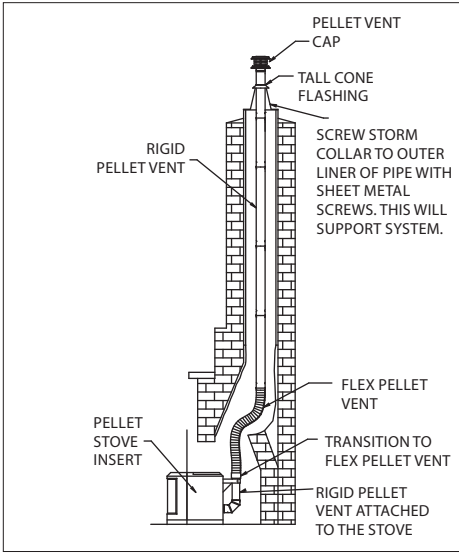
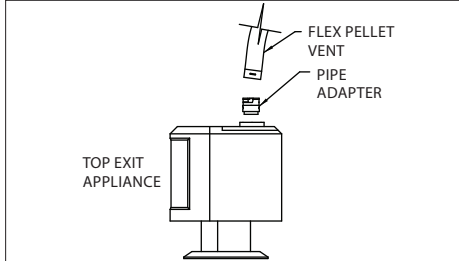

Figure 10
Figure 11
8. In making the connection at the appliance, configurations other than the one shown in **Figure 10** may be made. It may be necessary to contact the manufacturer of the unit to determine exactly what may or may not be done to make the correct connection. Some typical arrangements are shown in **Figures 11 and 12**. A Pipe Adapter may be needed, depending on the exit size of the stove or insert collar.